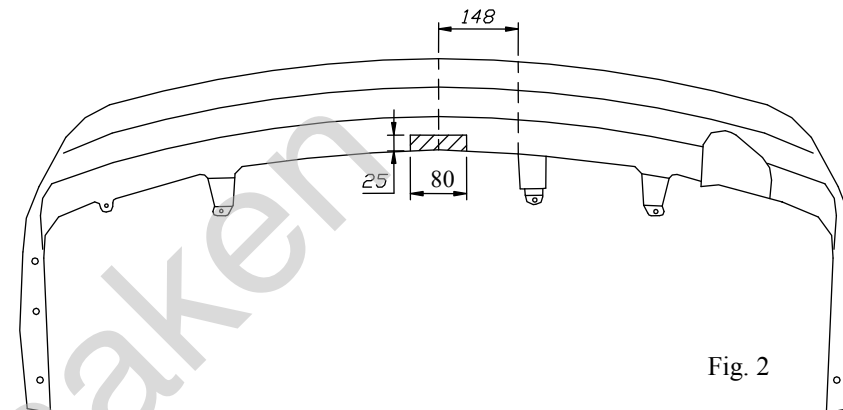

Fig. 2
2. Cut out the fragment of the bumper as shown on the fig. 2.